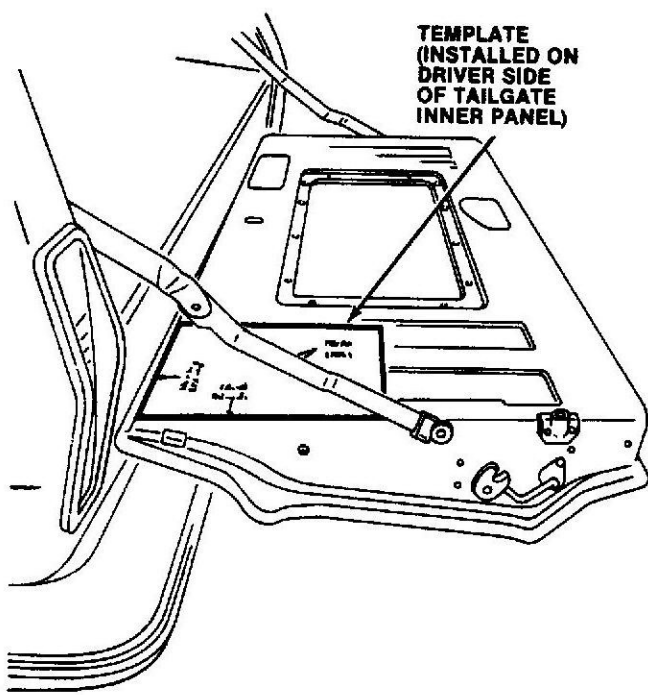

Fig. 1 Positioning Template on Tailgate Inner Panel
- (4) Cut two 53-1/2-inch long strips of sealer from roll. Place one strip of sealer over the other (with adhesive sides together) to form one double thickness strip of sealer that is 53-1/2 inches in length.
- (5) Position tailgate glass so bottom edge of glass faces upward. Support opposite edge of glass on cushioned surface to avoid damaging glass.
- (6) Remove silicone treated liner from one side of double thickness sealer strip.
- (7) Center sealer strip over bottom edge of tailgate glass. Starting at one end, install sealer along entire length of glass. Be sure to keep sealer centered on edge of glass during installation.
- (8) Remove silicone treated liner from opposite side of sealer strip and install channel on bottom edge of tailgate glass. Press or tap channel into position carefully. Be sure channel is fully seated before continuing.
- (9) Drill two 1/4-inch mounting holes for stop bumper brackets at each lower corner of tailgate inner panel as follows:
- (a) Position right side template on driver side lower corner of tailgate inner panel (Fig. 1). Align template edges with bottom and side of tailgate inner panel, and tape template in place. Mark hole locations indicated on template using centerpunch and remove template.